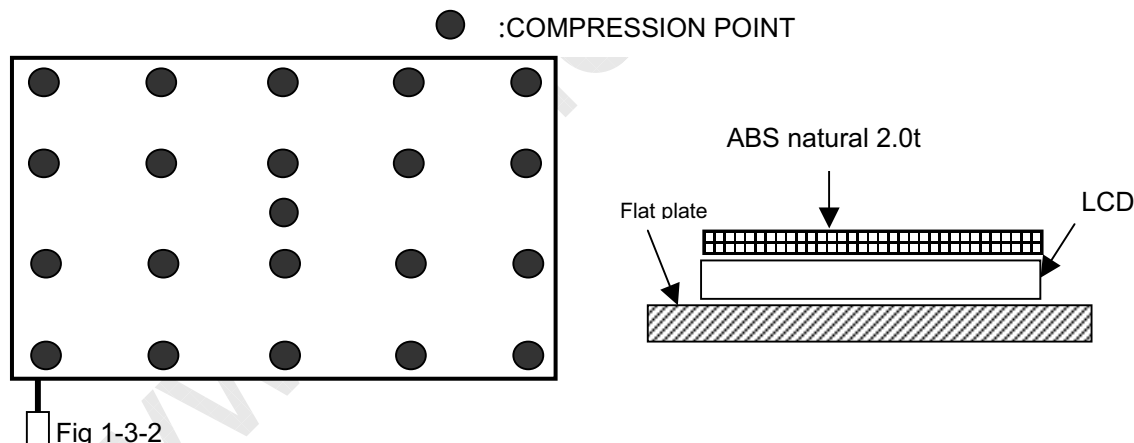

Fig 1-3-2
(2) The compression condition of rear side
- (a) Compression point : 21 points (refer to Fig 1-3-2)